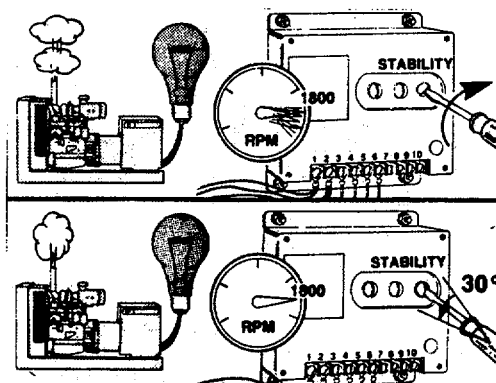

FIGURE 3-21. Stability Adjustment.
- 2 Slowly rotate the STABILITY adjustment clockwise until surging returns. Rotate the screw counterclockwise 30 degrees to regain stability. (FIGURE 3-21)